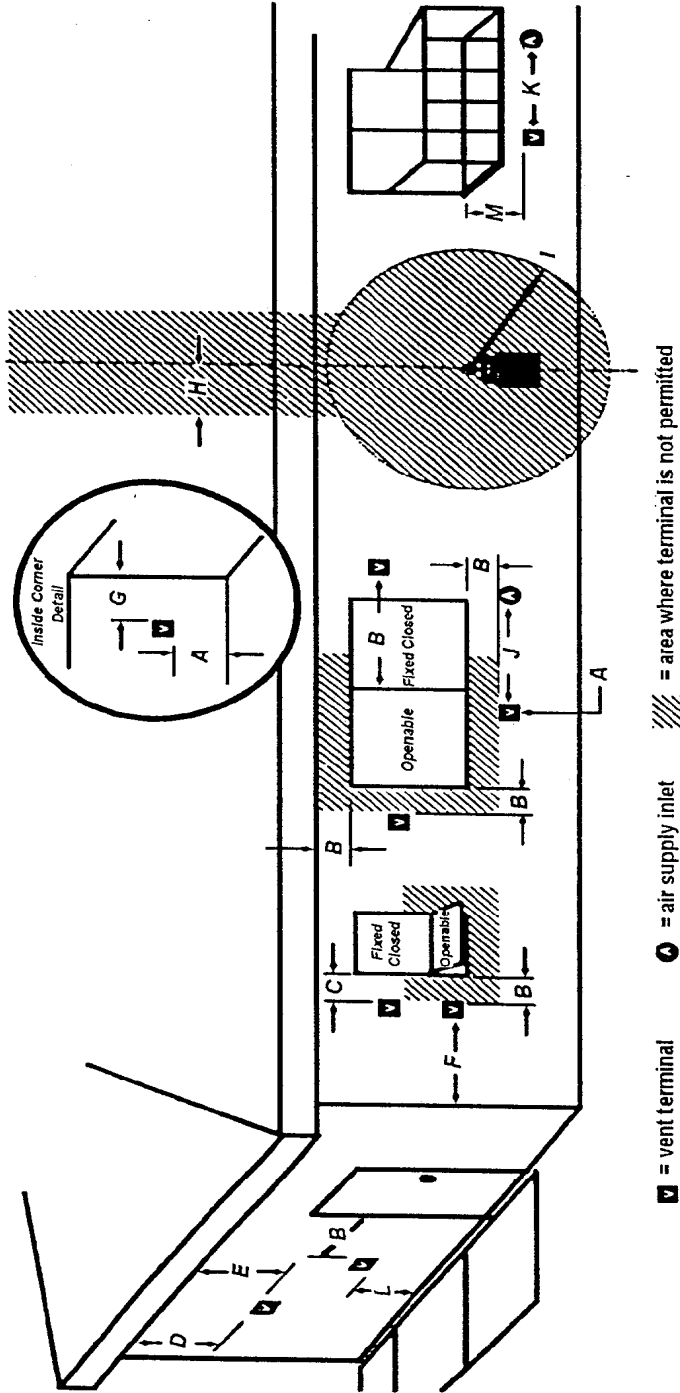
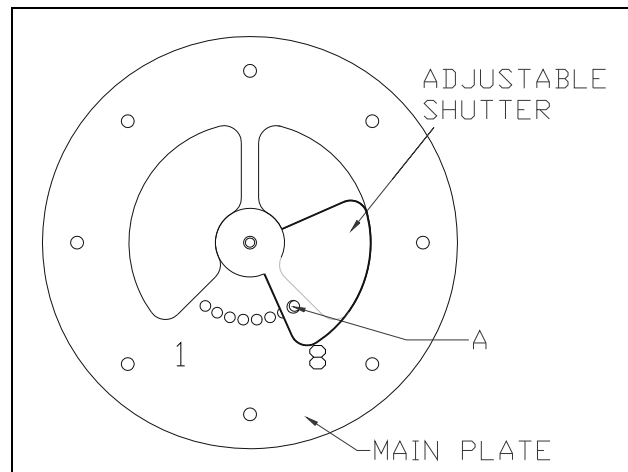

Figure 8
Figure 11: Restriction Plate Adjustments
The restriction plate is used to control the draft of the heater. Controlling the draft also changes the aesthetics of the flame. The restriction plate has eight settings, one (1) being the lowest and eight (8) being the highest. For a fast moving flame with lots of action, use a low setting. For a slow, lazy flame, a high setting should be used. See *Figure 11* for instructions on how to adjust the restriction plate settings.
Remove the log set before adjusting the restriction plate by following the log set removal instructions on page 25. Make sure the unit is cool before touching any part of the firebox and log set. Remove the exhaust baffle by removing the one screw in the center of the baffle (*refer to Figure 8*). The baffle will come out once the screw is removed. *Be careful not to drop the baffle on the pan burner.* Once the baffle is set aside, check the restriction plate screw location. There are eight locations that the restriction plate can be positioned. (Refer to Venting Configuration – *Figures 14 – 16* for recommended restriction plate positions) (Refer to *Figure 11* for proper adjustment plate index location) 'A' in *Figure 11* shows the locating screw that determines the position of the plate.